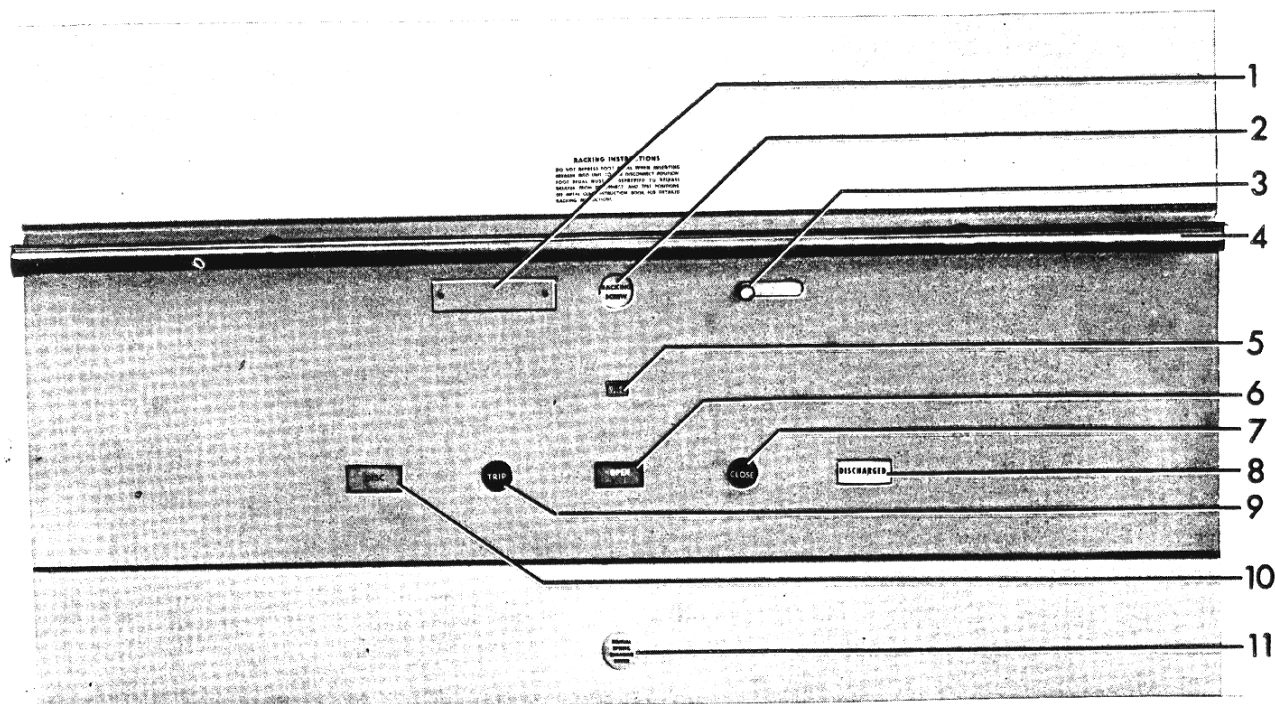

Figure 1. (8040291) Control Panel
Remove the top front cover, right and left side covers and remove the trip latch securing wire, which is identified with a shipping tag. The breaker can now be tripped open by pushing the manual trip button (9), Figure 1. Keep hands clear of moving parts of mechanism and breaker while removing the wire and opening breaker
charging shaft (13) Fig. 5. Turning the shaft clockwise will advance the ratchet wheel and compress the spring. When the spring has reached the fully charged position the yellow indicator (8) Fig. 1 will read CHARGED and the ratchet handle will rotate freely. The spring blocking pin (3) Fig. 4 should be inserted through the frame and closing spring guide (2). Manually discharge the spring against the pin by pushing the manual close button (7) Fig. 1. The spring is now blocked and slow closing of the breaker can be accomplished by again turning the manual charging shaft with the ratchet wrench.
After the adjustments have been checked, the closing spring can be unblocked. Rotate the manual charging shaft until the springs are fully charged and the ratchet wheel can no longer be advanced. The spring blocking device can now be removed. The closing and opening springs can now be discharged by pushing first the close button (7) Fig. 1 and then the open button (9).
A positive interlock (6) Fig. 12 works with the racking screw shutter (2) Fig. 1 to prevent insertion or removal of the breaker when the contacts are closed. It also prevents closing the breaker except in the fully connected or test position. Electrical operation of the breaker is also prevented by the interlock linkage.
A position indicator (10) Fig. 1 will show the position of the breaker in the disconnect and test positions. Remote electrical position indication is accomplished by switches in the metal-clad actuated by a cam on the breaker (1) Fig. 3.
The breaker can be padlocked in either the fully connected or test positions so that it cannot be moved from that position. The lock can be applied after removing a cover (1) Fig. 1 on the control panel and secures the racking screw shutter preventing access to the racking mechanism. The breaker is fully operative in either position.